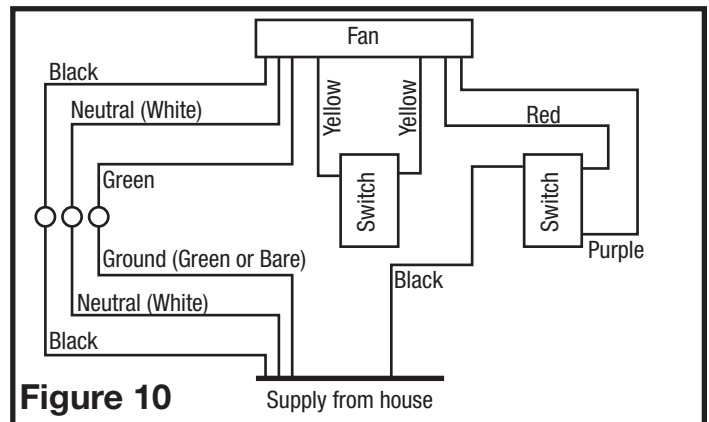

Figure 10
4. For two speed fans wired for continuous ventilation, connect the White wire of the fan to the White (Neutral) wire from the power source. Connect the ground wire from the house to the Green wire from the fan housing. Connect the Black wire of the fan to the Black wire (Hot) from the power source. The fan will operate on low speed continuously and boost to high upon a rise in humidity. Using a properly grounded switch, connect 1 yellow wire to each side of the switch. Closing the switch will change from normal to high speed. Using a properly grounded standard duplex toggle switch (such as Leviton 5224-2W, not included) connect the Black wire from the supply to one side of the top and bottom switch. Connect the Red wire (light) from the fan housing to the other side of the top switch and connect the Purple wire (night light) from the fan housing to the other side of the bottom switch. A manual override switch (not included) can be used to provide a manual fan Off function (Figure 10).